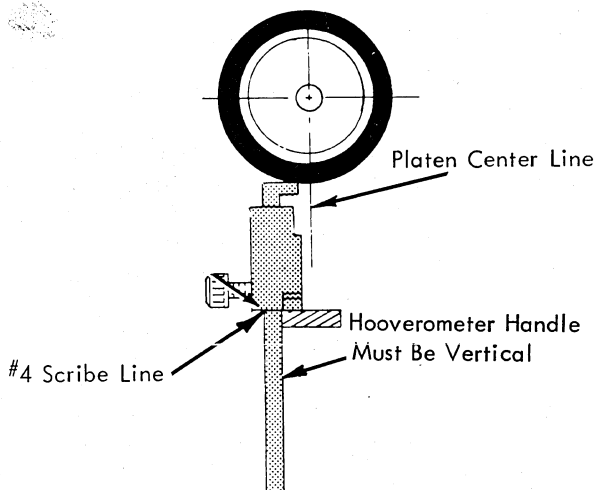

FIGURE 89. Platen Height
- a. Platen Height - With the head of the Hooverometer set at the #4 scribe line, the platen should just touch the base of the handle when the head is resting on the escapement rack (Fig. 89).